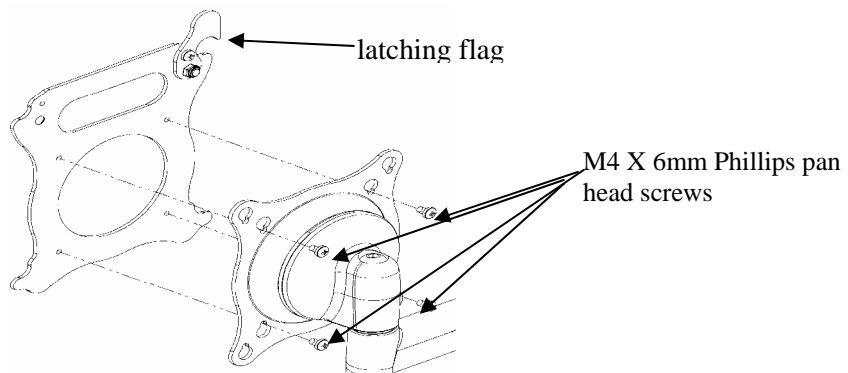

Figure 2
1. Install quick release bracket on your 75mm VESA mounting device using four M4 X 6mm screws provided (see Figure 2).